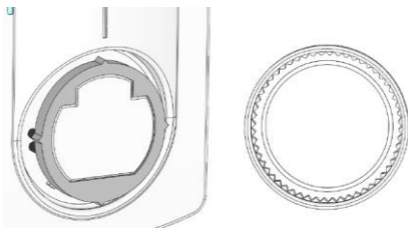

Fig. 2
5. Put the internal wheel alone on the thermostat. (Figure 2)